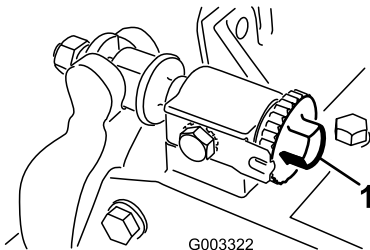

Figure 7
- A. Turn the bedbar-adjusting screws clockwise (Figure 7), 1 click at a time, until you feel and hear light contact.